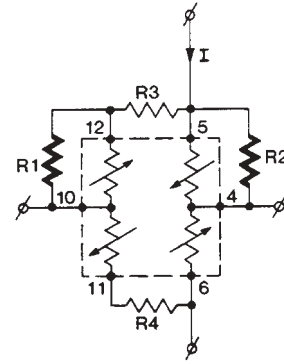
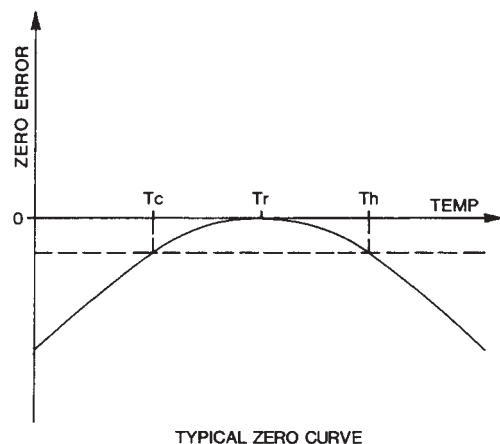

Figure 5. Offset TC
Figure 6. Typical Zero Curve
When the temperature coefficient (TC) of offset is positive (+O potential at pin 4 is increasing faster than -O potential at pin 10), a decrease of this TC may be achieved by a decrease of the effective TC of the strain gage connected between +EX pin 12 and -EX pin 10. This may be achieved by a parallel connection of a temperature stable resistor R_1 (Figure 5). With a negative coefficient of offset voltage, the decrease of the TC of the other arm will be accomplished by resistor R_2 . Only one of these resistors is used for a given sensor, but both of them affect the initial offset, and the value of resistor R_3 or R_4 has to compensate for this change. During standard production testing IC Sensors uses at minimum 3 test temperatures. Based on measured data the computerized sensor model is developed and a set of simultaneous equations is solved which gives the value of the compensating resistors which bring the offset to zero at reference temperature T_r (Figure 6) and equalize the errors at temperatures T_c and T_h . This error is a function of the temperature nonlinearity of zero. For sensors with perfectly linear temperature coefficient of offset, the errors at T_c and T_h will also be zero.